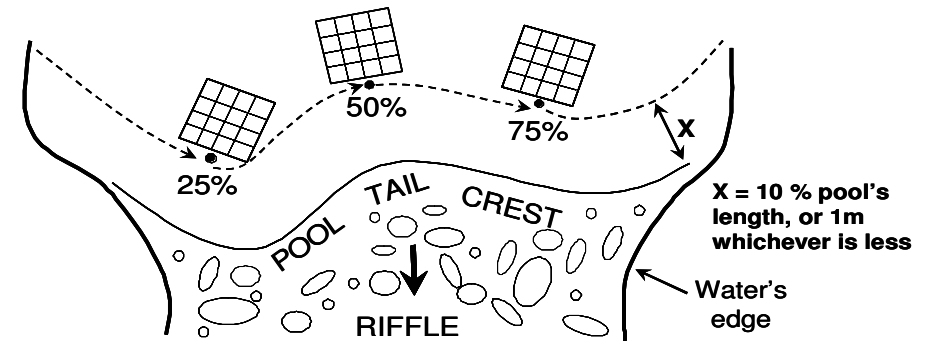

Figure 13. Location and orientation of pool tail fines grids relative to the pool tail crest
- b. Place the bottom edge of the grid upstream from the pool tail crest a distance equal to 10% of the pool's length or one meter, whichever is less (Figure 13).